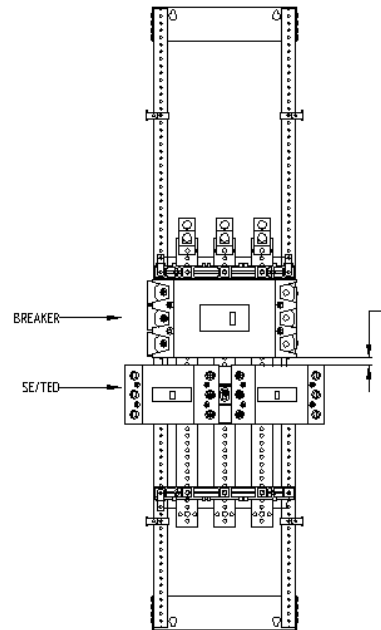

Figure 4. Distance between breakers
12. If SE/TED breaker has to be installed after SG or SF/TFJ or FB as shown in Figure 4 then gap between the breakers (dim A) has to be followed as mentioned in Table 2. Replace the subsequent blank filler of dead front with SE/TED filler plate given in kit ASPP6SE6D using steps 9 to 11.